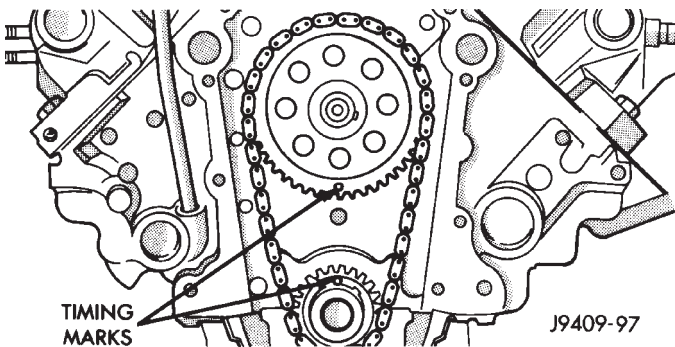

Fig. 31 Alignment of Timing Marks
(5) Place both camshaft sprocket and crankshaft sprocket on the bench with timing marks on exact imaginary center line through both camshaft and crankshaft bores.
(6) Place timing chain around both sprockets.
(7) Turn crankshaft and camshaft to line up with keyway location in crankshaft sprocket and in camshaft sprocket.
(8) Lift sprockets and chain (keep sprockets tight against the chain in position as described).
(9) Slide both sprockets evenly over their respective shafts and use a straightedge to check alignment of timing marks (Fig. 31).